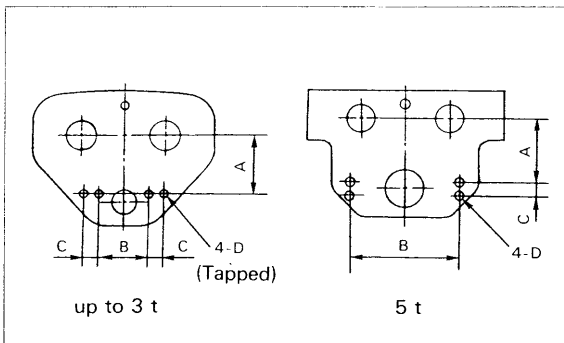

Fig. 20
* When there is no taps or holes for installation of the cable pusher on the side plate, make them referring to Fig. 20 and Table 7.